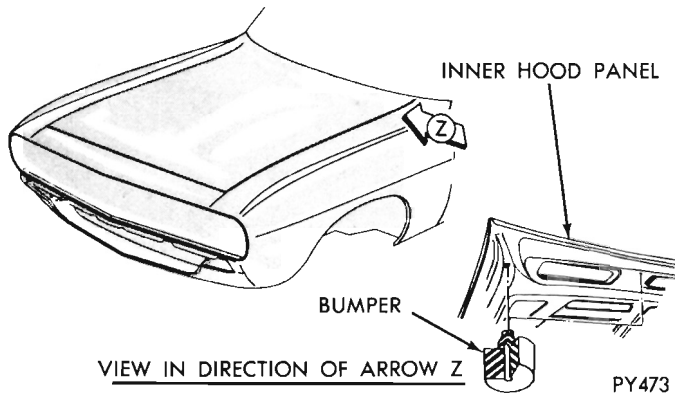

Fig. 8 - Hood Leveling Bumper's
**HOOD LEVELING BUMPER REAR (Fig. 8)**
For position and installation of bumper see (Fig.8).